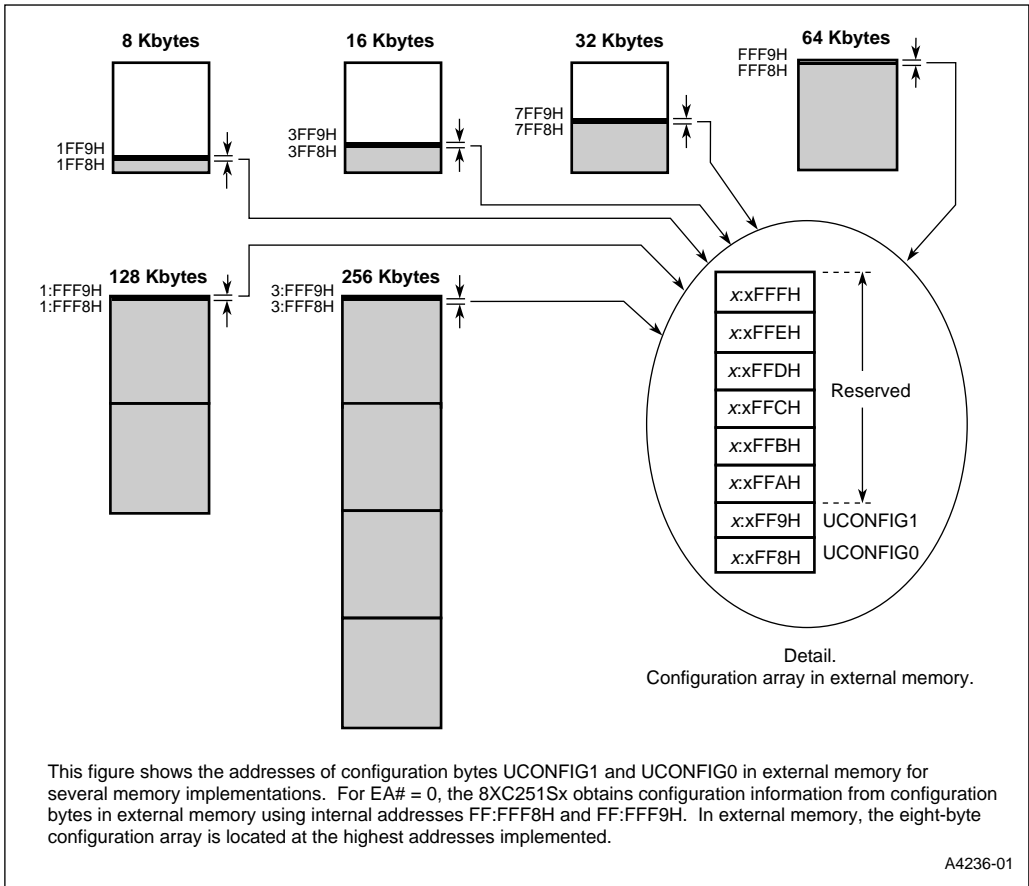

Figure 4-2. Configuration Array (External)
For ROM/OTPROM/EPROM devices, user configuration bytes UCONFIG0 and UCONFIG1 can be programmed at the factory or on-site using the procedures provided in Chapter 14, “Programming and Verifying Nonvolatile Memory.” For devices without ROM/OTPROM/ EPROM, the designer should store configuration information in an eight-byte configuration array located at the highest addresses implemented in external code memory. See Table 4-1 and Figure 4-2.
- Address. UCONFIG0 is the second-lowest byte of the 8-byte configuration array. As determined by UCON and EA#, the 8XC251Sx fetches configuration information from on-chip nonvolatile memory at addresses FF:FFF8H and FF:FFF9H or from external memory using these same addresses. In external memory, configuration information is obtained from an 8-byte configuration array located at the highest addresses implemented. The location of the configuration array in external memory depends on the size and decode arrangement of the external memory (Table 4-1 and Figure 4-2).
- Address. UCONFIG1 is the second-lowest byte of the 8-byte configuration array. As determined by UCON and EA#, the 8XC251SA, SB, SP, SQ fetches configuration information from on-chip nonvolatile memory at addresses FF:FFF8H and FF:FFF9H or from external memory using these same addresses. In external memory, configuration information is obtained from an 8-byte configuration array located at the highest addresses implemented. The physical location of the configuration array in external memory depends on the size and decode arrangement of the external memory (Table 4-1 and Figure 4-2).